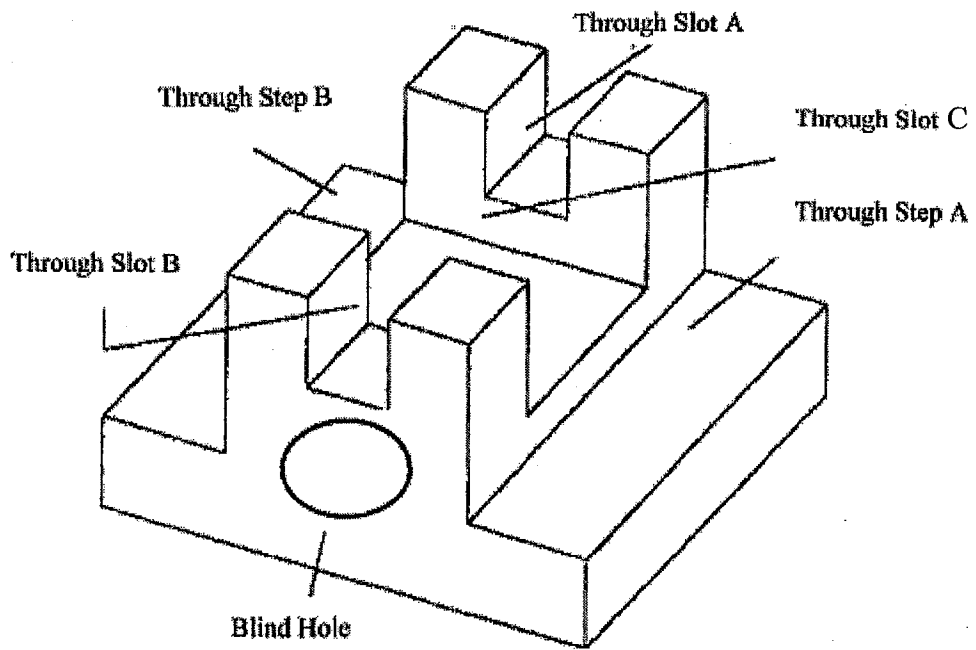

Fig.Q03
- 3.4. Draw the CSG tree for the object shown in Fig.Q03.